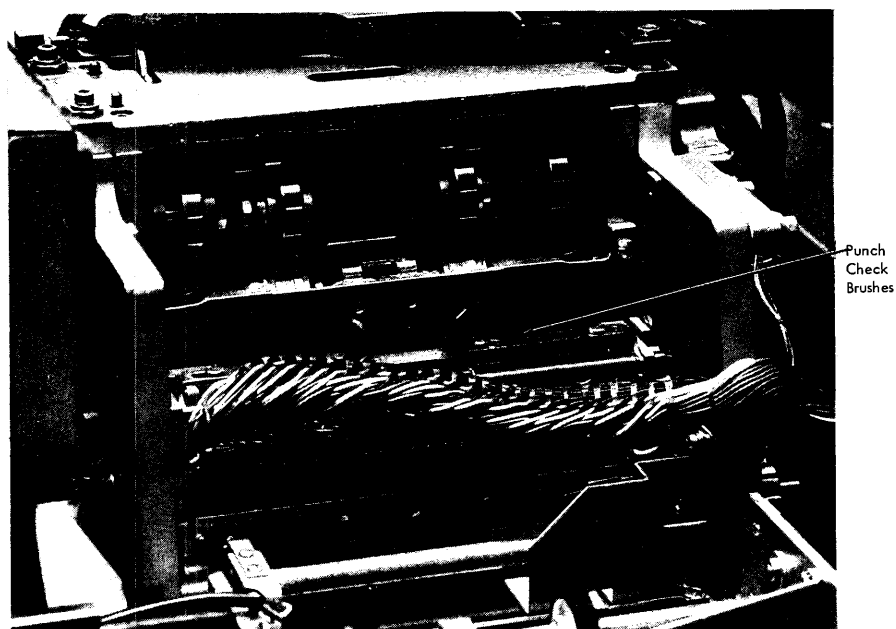

Figure 17. Punch Feed
2. Lift the top cover to make the punch check brushes accessible (Figure 17).